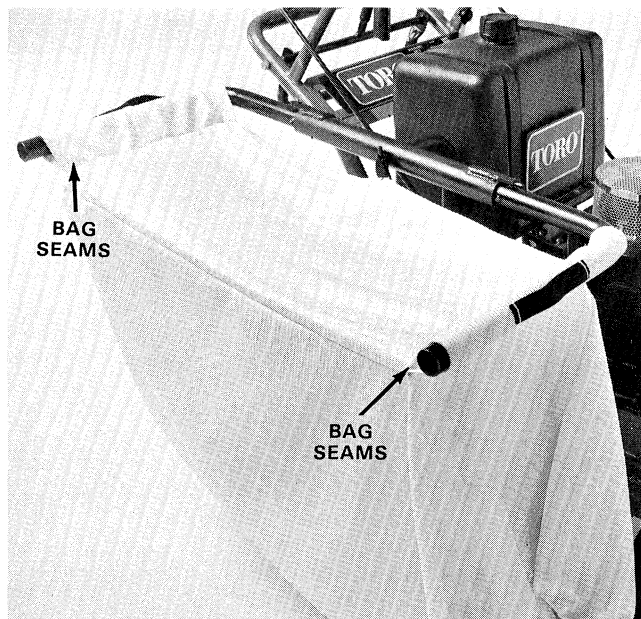

Figure 5
2. Slide bag seams onto bagger frame tubes so bag opening is positioned to front of mower (Fig. 5).